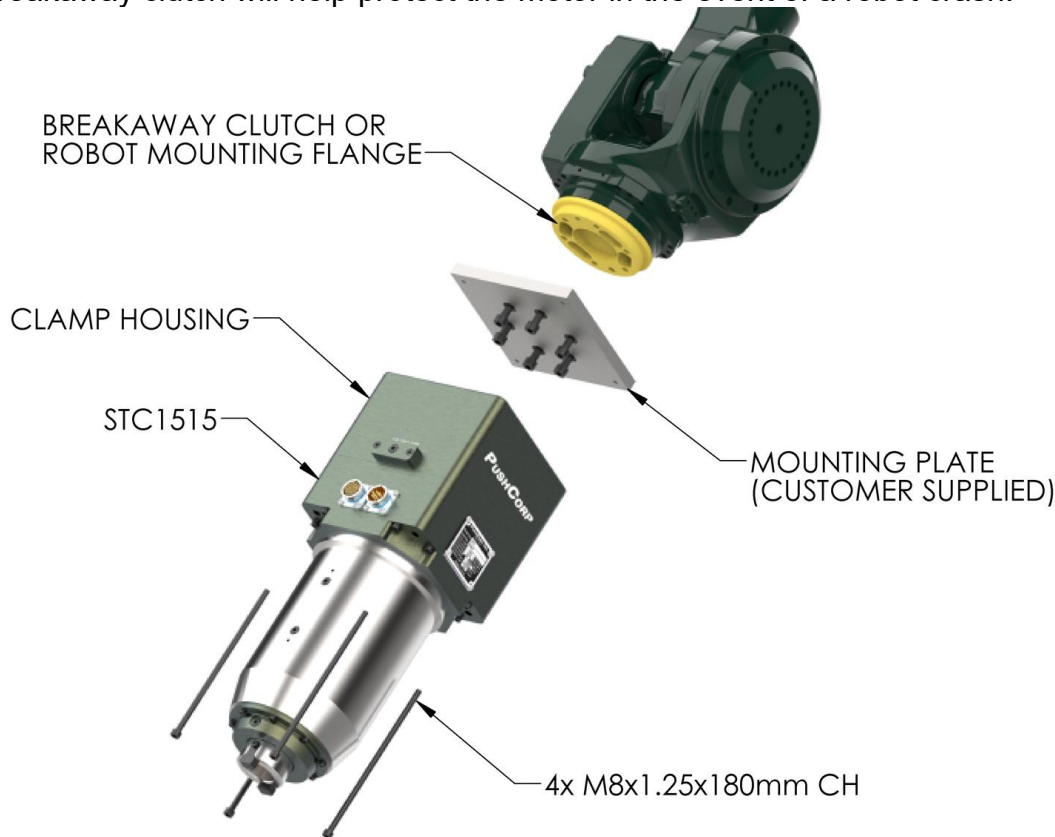

FIGURE 3: STC1515 DIRECT MOUNTING
To mount the STC1515, first attach the Mounting Plate to the Robot Mounting Flange or to the Breakaway Clutch, per the manufacturer’s specifications. Once the Mounting Plate is secured, place the STC1515 against the Mounting Plate and install (4) four, M8x1.25X180mm, Socket Head Cap Screws. (See Figure 3) Tighten the fasteners to the torque specified in Section 4.0.